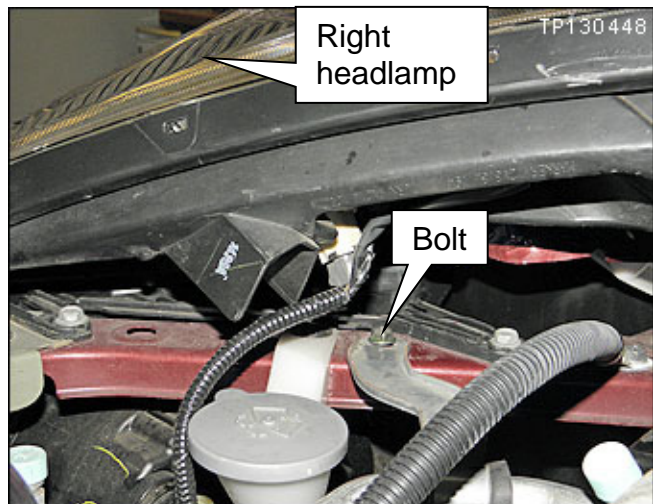

Figure 17
22. Remove the bolt holding the A/C low pressure line shown in Figure 17.